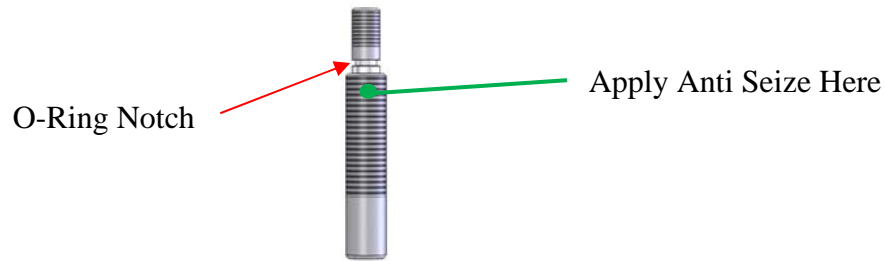

Figure 45: Adjustment Screw O-Ring Notch
1. Lightly apply a small amount of anti-seize to the threads of the adjustment screw. See Figure 45.
5. Carefully place the adjustment screw o-ring onto the adjustment screw, making sure not to cut the o-ring. The o-ring should reside in a notch groove below the upper threads of the adjustment screw. See Figure 45.